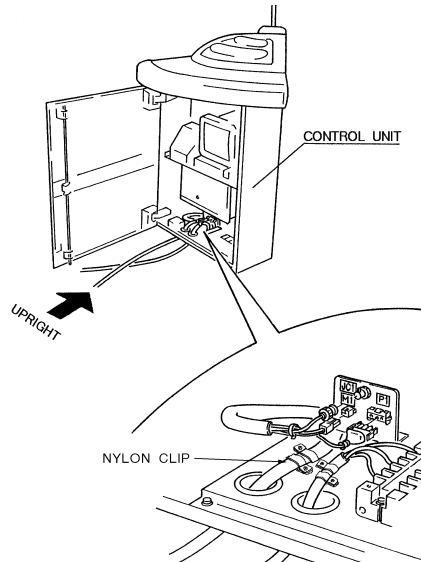
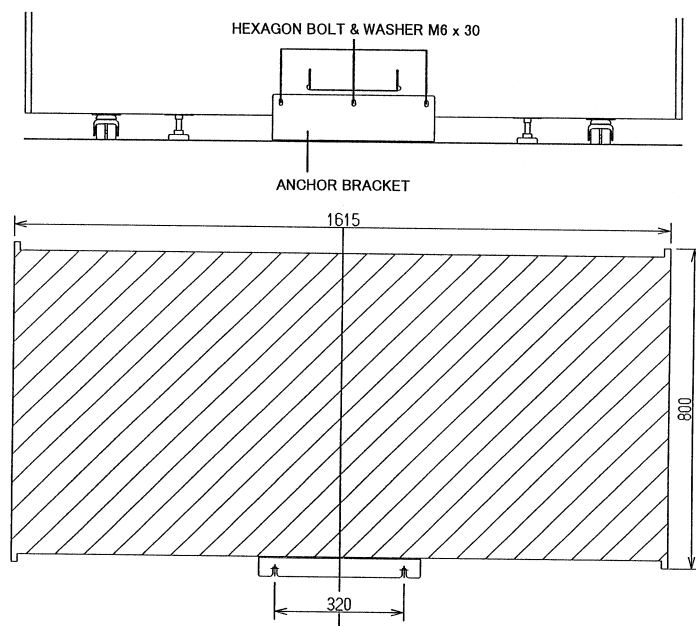

Fig. 25
Fig. 26
9. Connect the above cable to the main control unit through the left hole on the bottom of the main control unit. Refer to Fig.25.
10. Secure the cable by a nylon clip. Refer to Fig. 25.
11. Replace the back door (C).
13. Bolt the anchor bracket (Package No. 22/23) on the projector cabinet. Refer to Fig. 26.